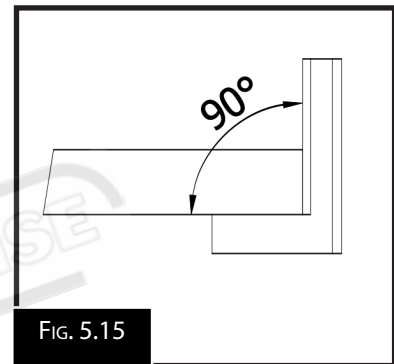

FIG. 5.15
1. Replace with a new blade and check for squareness. The workpiece should be as per Fig. 5.15